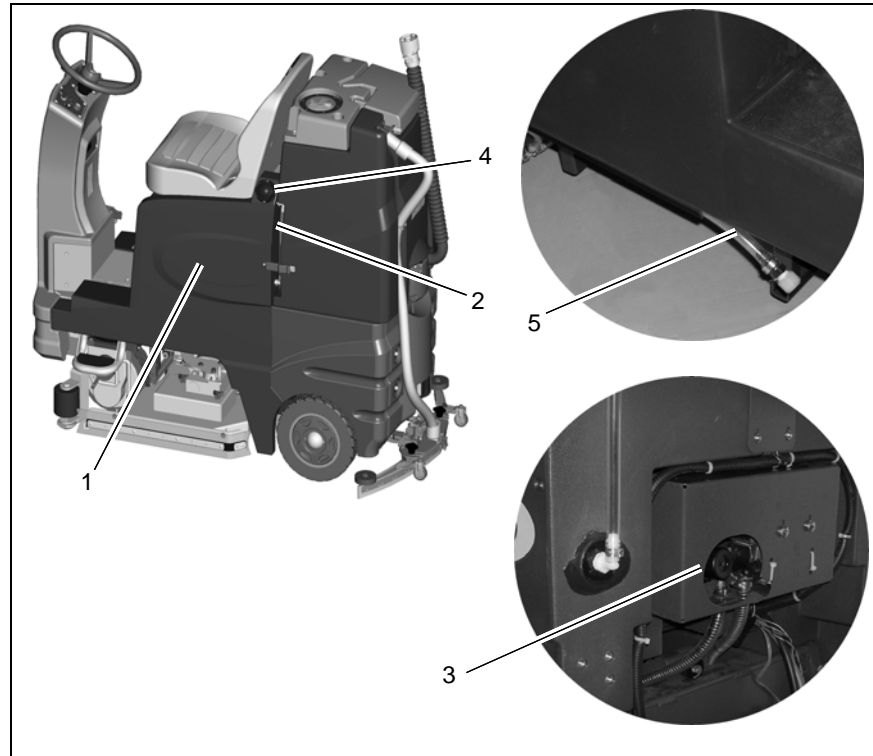

Fig.15
Fill solution tank (Fig. 15/1) before work or as required. Park machine on level ground. Open fill port (Fig. 15/4) and fill tank up to the maximum (1/1 marker) on the sight gauge (Fig. 15/2).
Park machine such that the solution tank drain hose (Fig. 15/5) is located above the drain aperture in the floor. Take tank drain hose from holder and remove cap.
Check solution filter (Fig. 15/3) at weekly intervals and clean or replace if required.
1. Empty solution tank (Fig. 15/1), see paragraph 7.5.2.